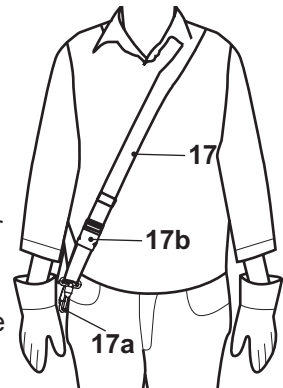
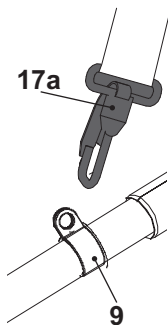

Fig. 6
Fig. 7
1. Place the harness (17) so that it runs over the left shoulder, crossing the chest and back. The securing clip (17a) must be located at the right hip. The quick release (17b) must be in front (Fig. 6).
2. Adjust the length of the harness (17) so that the securing clip (17a) is approximately 15 cm below your waist.
3. Attach the securing clip (17a) to the loop (9) (Fig. 7).